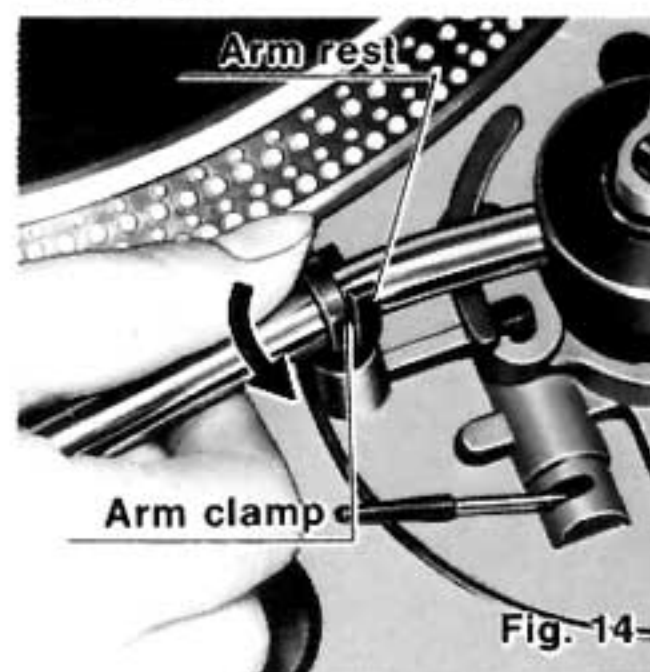

Fig. 14
- 2 Release the arm clamp and lift the cueing lever. (See Figs. 14 and 15)